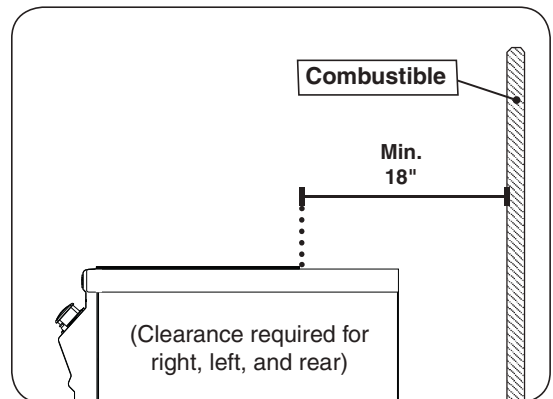

Fig. 8-3 Clearance 'C' Diagram
- The unit must have a minimum of 18" right, left, and rear clearance from any combustible wall (see Fig. 8-3).